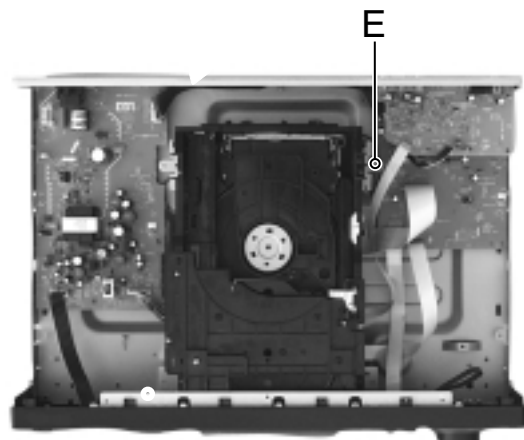

Fig.7
■ Removing the DVD changer mechanism assembly (See Fig.7 and 8)